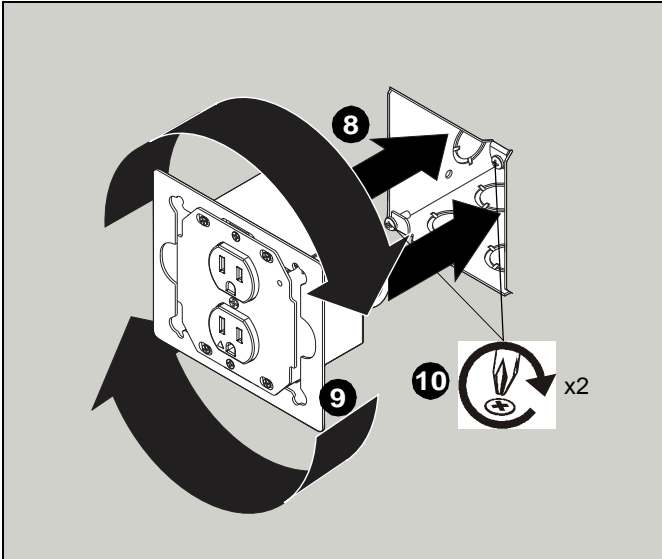

Figure 13
8. Replace the outlet box into the EGX-SF2 housing. (See Figure 13)
10. Tighten two Phillips screws to secure outlet box to EGX-SF2 housing. (See Figure 13)